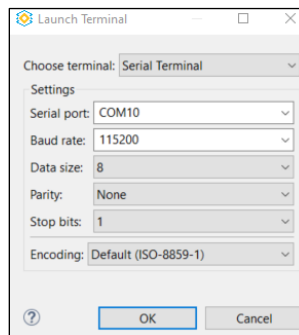
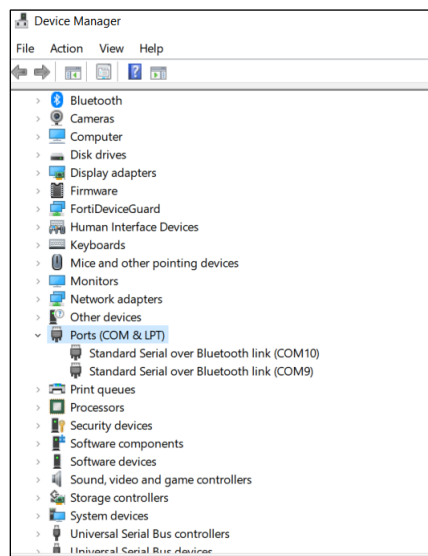

Figure 7.6. UART Launch Terminal Window
Figure 7.7. Device Manager Window on PC
- Choose **Serial Terminal** as shown in Figure 7.6. In Serial port dropdown list, select the last COM in the list as shown in Figure 7.7.